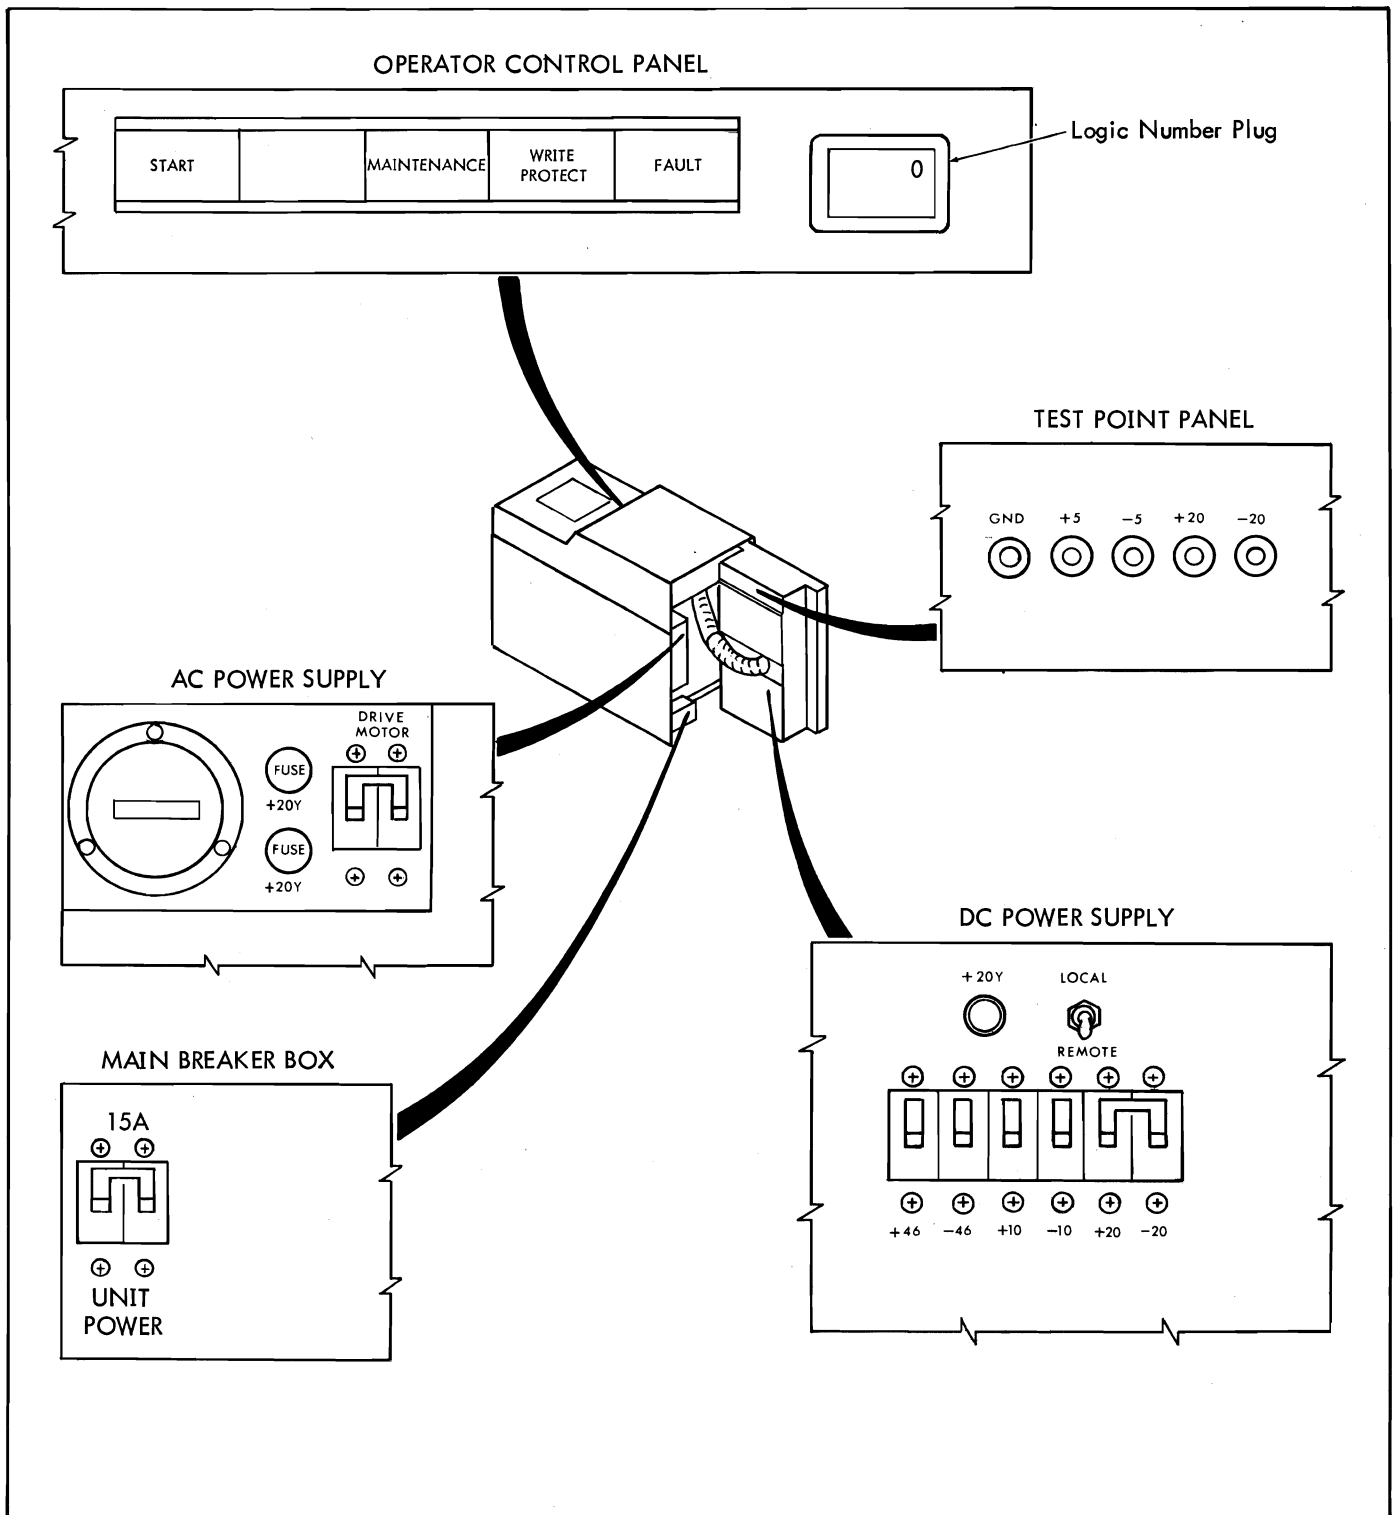

Figure 17. Location of Disk Storage Unit Controls and Indicators
group for troubleshooting and preventative maintenance use by a customer service engineer (CE). The following sections describe the two groups; the locations of all controls and indicators are pictured in Figure 17.
The operator pushbutton controls and lighted indicators are located on a horizontal panel on the front of the disk storage unit (see Figure 17). The controls and indicators serve these functions:
The test point panel, AC power supply panel, DC power supply panel, and the main breaker box are located inside the rear panel of the disk drive unit (see Figure 17). The operator is only concerned with the main UNIT POWER circuit breaker, and the circuit breakers and LOCAL/REMOTE switch on the DC power supply panel. See "Disk Drive Power Turn On" for a description of their settings in that procedure.